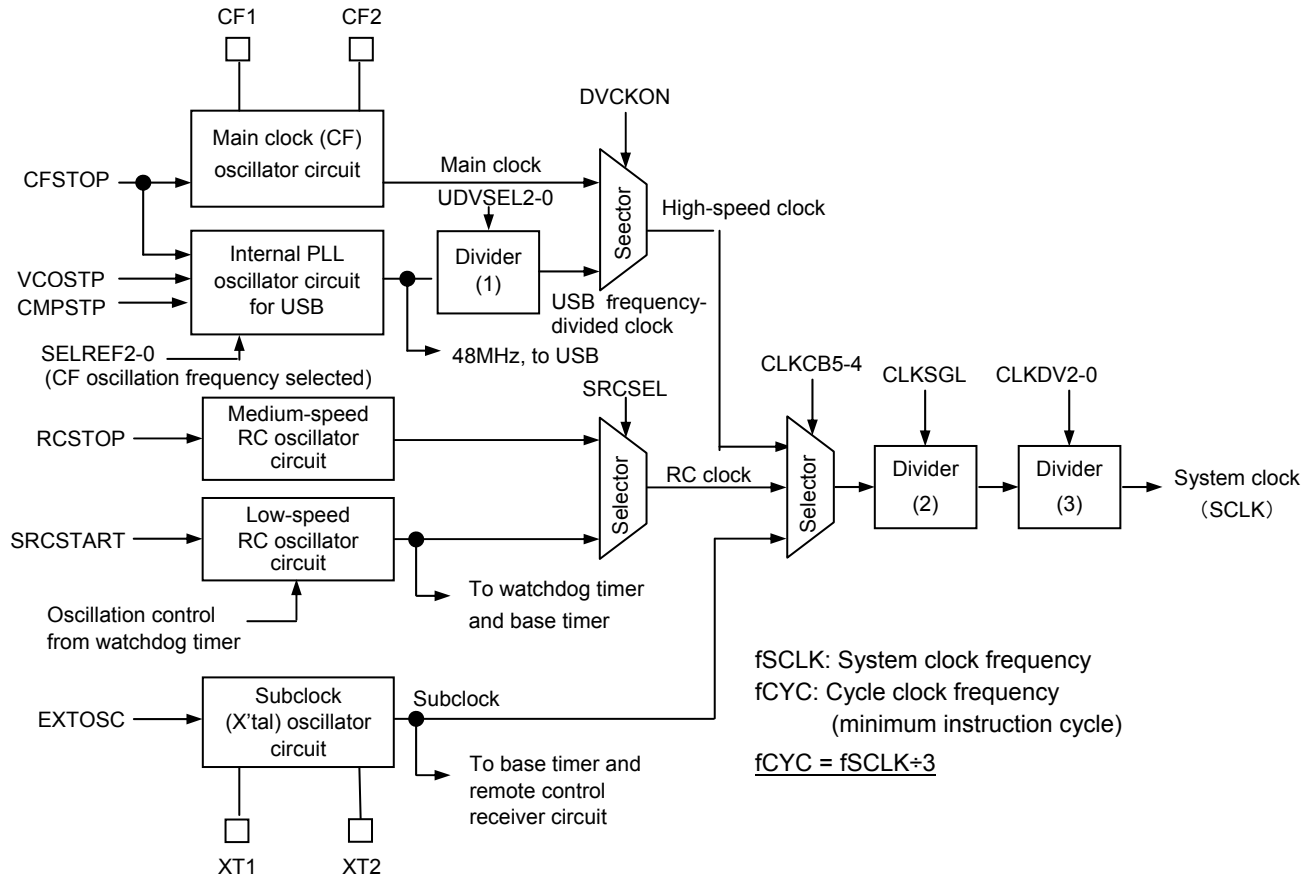

Fig. 4.2.1 System Clock Generator Block Diagram
* See Figure 4.2.1 for details.
- * See Figure 4.2.1 for more information.